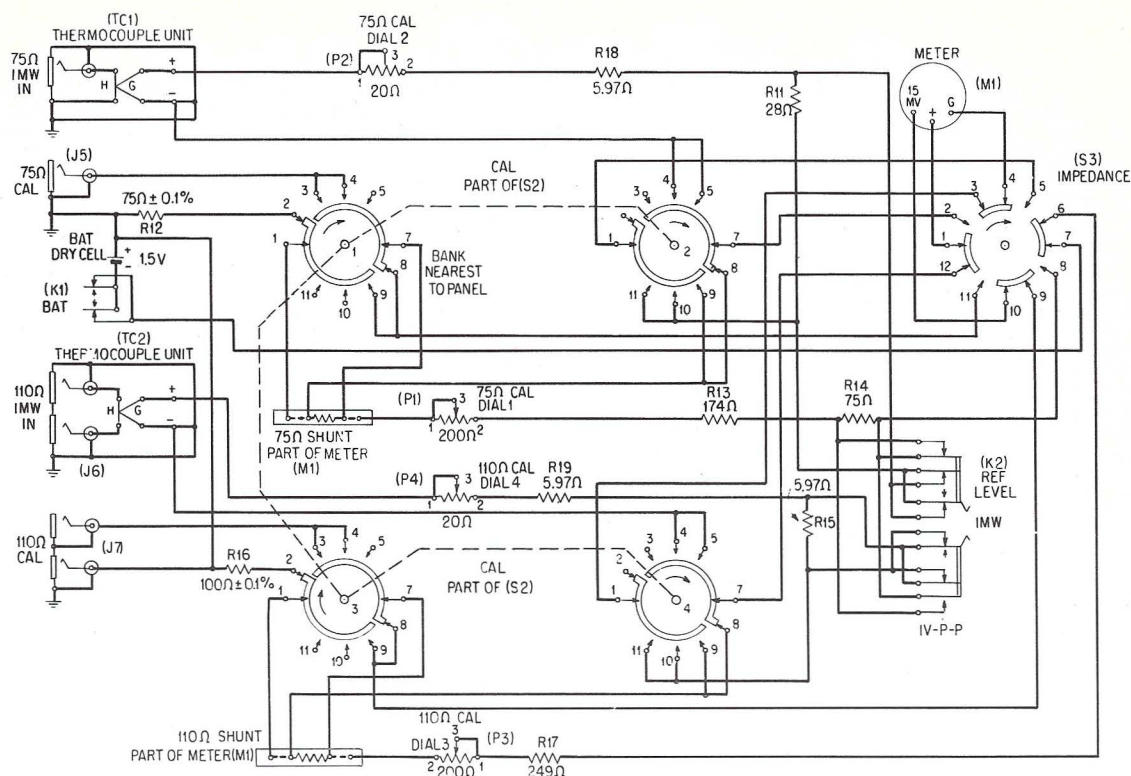

Fig. 2 - 75-Ohm and 110-Ohm Thermocouple Circuits
**2.02** This circuit is shown in Fig. 2. The 75-ohm thermocouple heater is mounted directly at the end of the 75w 1 MW IN jack. The jack and the thermocouple are enclosed in a removable cartridge, which also serves as a shield. The two flexible leads connecting to the cartridge carry the thermocouple galvanometer current, which is direct current, through a potentiometer 75w CAL DIAL 2, to the CAL and IMPEDANCE switches and thence to the 0-200 microammeter. The potentiometer 75w CAL DIAL 2 permits adjustment of the thermocouple output when calibrating. The IMPEDANCE switch connects the meter to either the 75-ohm or the 110-ohm thermocouple circuit. The CAL switch permits the use of the meter and associated 75w SHUNT, to set the exact value of the direct current used in calibrating the thermocouple. The 75w CAL DIAL 1 potentiometer allows adjustment of the dc calibrating current to the desired value. The REF LEVEL key is provided to change fixed resistance values in the two circuits so that either
**2.04** This circuit is shown in Fig. 2 along with the 75-ohm thermocouple circuit. Its circuit arrangement is identical to that described in Part 2(B) except that, since the circuit is balanced, both the thermocouple input and the dc calibrating circuit are equipped with double jacks. Certain resistances and the 110w SHUNT are different in value but otherwise serve functions similar to those described in Part 2(B). Separate calibrating potentiometers such as the 110w CAL DIAL 4 and 110w CAL DIAL 3 are provided and serve the same purpose as the 75w CAL DIAL 2 and 75w CAL DIAL 1 potentiometers.